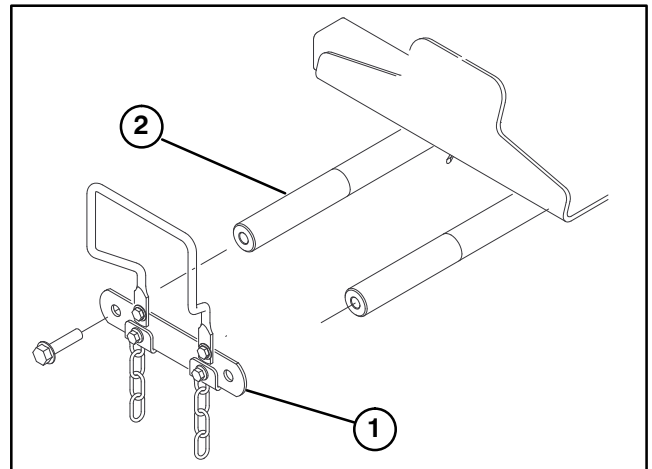

Figure 11
INSTALL FRONT LIFT ARMS (Fig. 11 – 25)
1. Remove (2) capscrews securing lift arm pivot shaft link to lift arm pivot shafts. Remove and retain pivot shaft link and capscrews (Fig. 11).